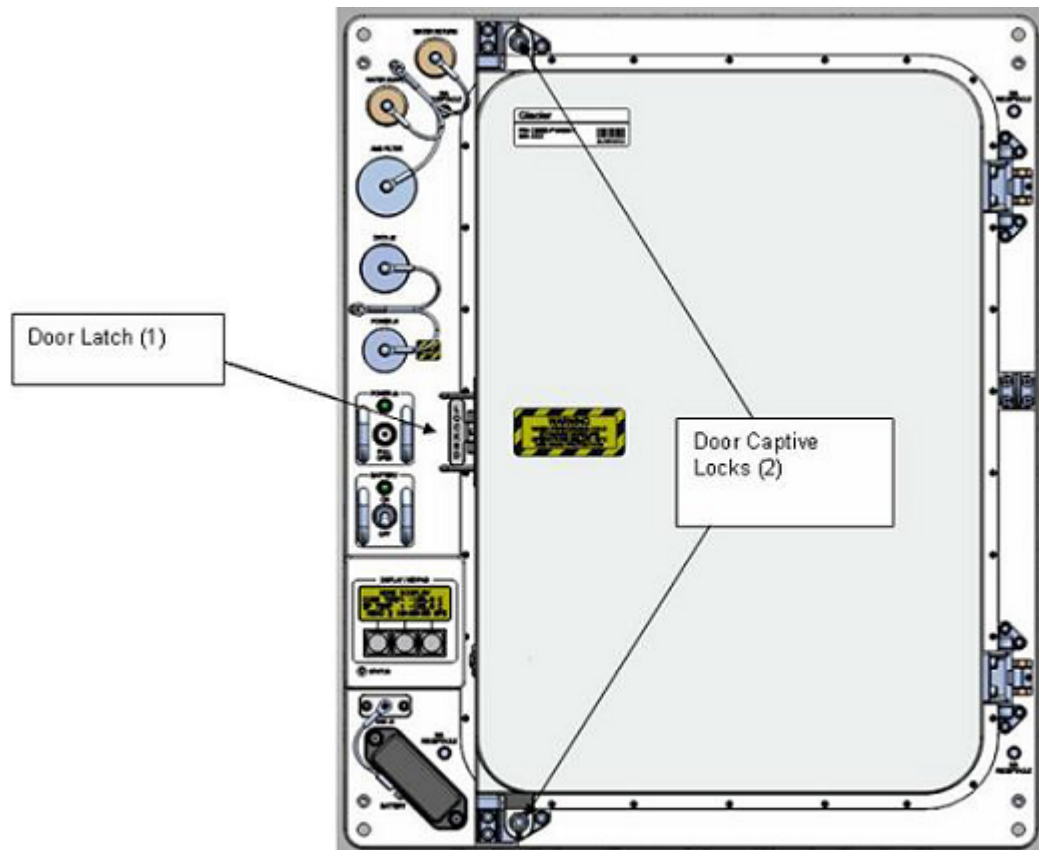

Figure 1. Glacier Configuration.
- 1.1 Unlock Glacier Door Captive Locks (two) (3/16" Hex Head, 3/8" Drive, 1/4" to 3/8" adapter, 1/4" drive, 4" Extension, 1/4" Drive, Ratchet, 1/4" Drive). Refer to Figure 1.